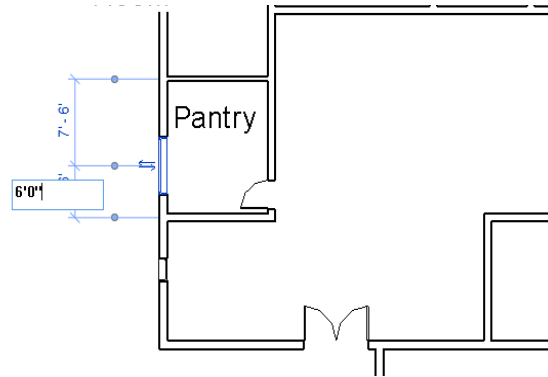
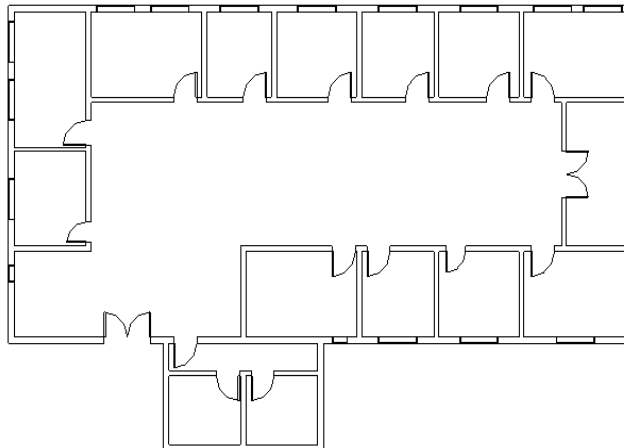

Figure 3-85 Specifying the location of the bedroom window
Figure 3-86 Complete project plan with doors and windows
12. Move the cursor near the exterior wall of the pantry and click to place the window, as shown in Figure 3-85. Press ESC twice to exit.
13. Now, select the added pantry window; the window gets highlighted in blue color and its controls are displayed. Click on the temporary dimension displayed at the bottom and enter **6'0"** for Imperial or **1800 mm** for Metric to specify the location of the pantry window, refer to Figure 3-85; the window is moved to the desired location. Similarly, add the windows of the same type to the walls of the other rooms and specify their respective locations based on the given sketch plan, refer to Figures 3-86.
This completes the tutorial of adding doors and windows to the *Building Envelope II* project. The Level 1 plan should look similar to the plan shown in Figure 3-86.
You can place doors and windows at nearby position, refer to Figure 3-86.